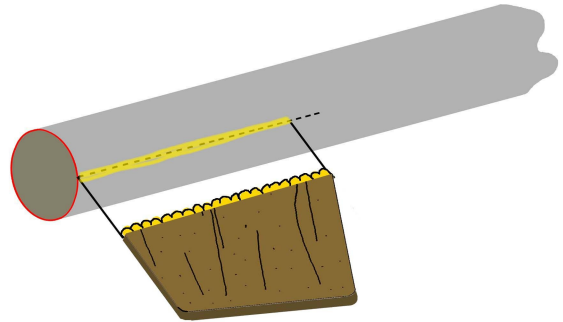

Figure 8
- **Step 26** As shown in Fig. 8, apply glue to the root edge of a booster fin, and bring it into contact with the booster body, directly on top of the glue you applied in Step 21. Remove the fin briefly, then re-apply the fin into the glue left behind by the fin. The fin should be directly on top of the line, with the trailing edge of the fin even with the rear edge of the body tube. Hold the fin in general alignment with your fingers for about 10 seconds, until the glue grabs and holds the fin by itself. Use a moist soft-bristle hobby brush to remove the excess glue that squeezes out, and to form the initial fillet. Carefully slide the fin alignment guide down from the top of the tube, over the fin. Make gentle adjustments to the angle of the fin to get it through the slot. Let the glue dry about 20 minutes before removing the guide. Repeat this step for each of the remaining booster fins. Attach the sustainer fins to the sustainer body tube using the same sequence for each fin.